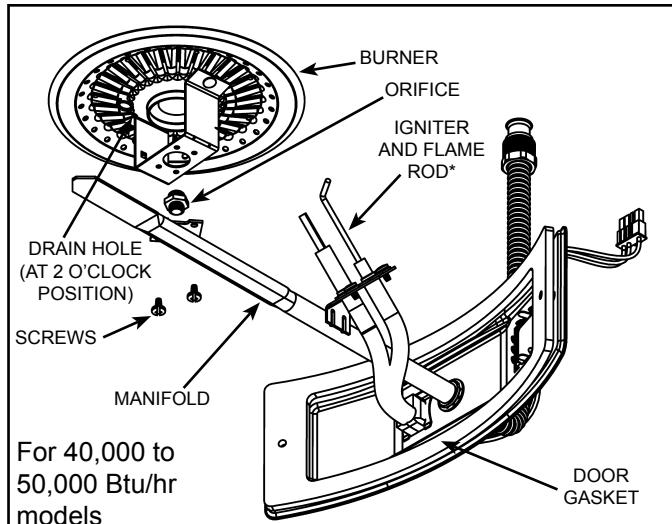

Figure 18
1. Burner may be hot. Wait until burner has cooled off. After noting the position of the condensation drain hole on the top of the burner, turn the inner door/manifold/burner assembly upsidedown. Using a Phillips head screwdriver, remove and retain the 2 screws attaching the burner to the manifold pipe (see Figure 18 & 19).
Care MUST be taken to ensure the burner is installed correctly on the inner door/manifold assembly. Position the new burner upside down with the orientation of the burner's condensation drain as shown in illustration (see Figure 18 & 19).
2. Using a ratchet with 1/2" socket, remove the burner's old orifice (**Note:** the burner orifices have different threads dependent upon the gas type. Orifices for natural gas have right-hand threads, orifices for L.P. have left-hand threads (see Figures 18 & 19).
1. Using a ratchet with 1/2" socket, install the new burner orifice (**Note:** the burner orifices have different threads dependent upon the gas type. right-handed threads for natural gas (turn clockwise to install) and left-handed threads for propane gas (turn counter-clockwise to install) (see Figures 18 & 19). **Note:** Determine whether the orifice is tall or short and DO NOT replace them with each other.
3. Align the screw holes on the inner door/manifold assembly. Using the two screws removed in step 1 above, installed the new burner to the inner door/ manifold assembly (rotate the assembly to visually check the top portion of the burner assembly and confirm the orientation of the condensation drain hole as shown in the illustration) (see Figure 18 & 19).